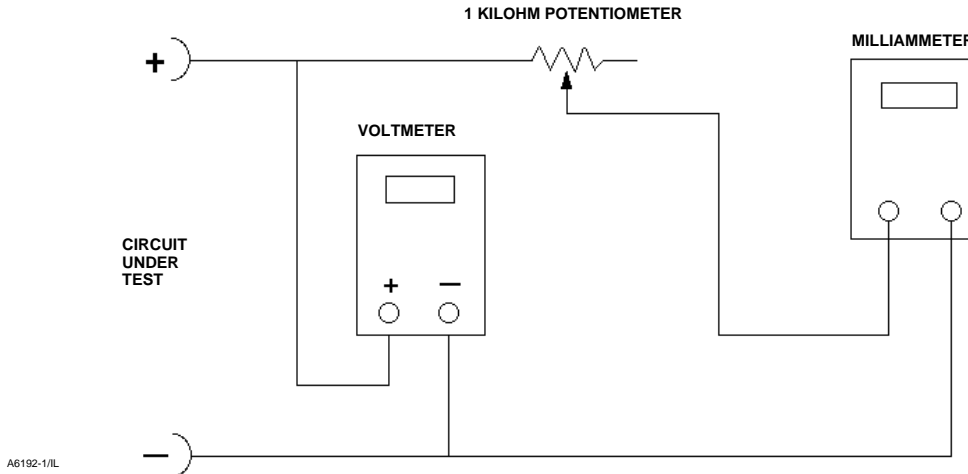

Figure B-2. Voltage Test Schematic
1. Disconnect the field wiring from the control system and connect equipment as shown in figure B-2 to the control system terminals.”
3. Set the resistance of the 1 kilOhm potentiometer shown in figure B-2 to zero.